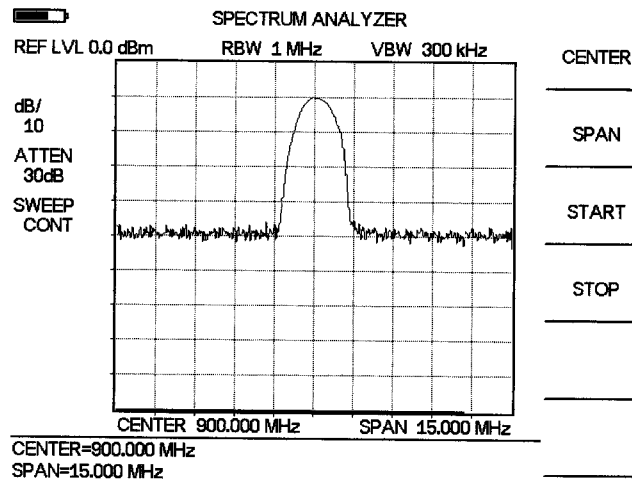

Figure 4-12. 15 MHz Frequency Span
**Step 10.** Enter 1, 5 using the Up/Down arrow key or the keypad and press **ENTER** to set the span to 15 MHz (Figure 4-12).